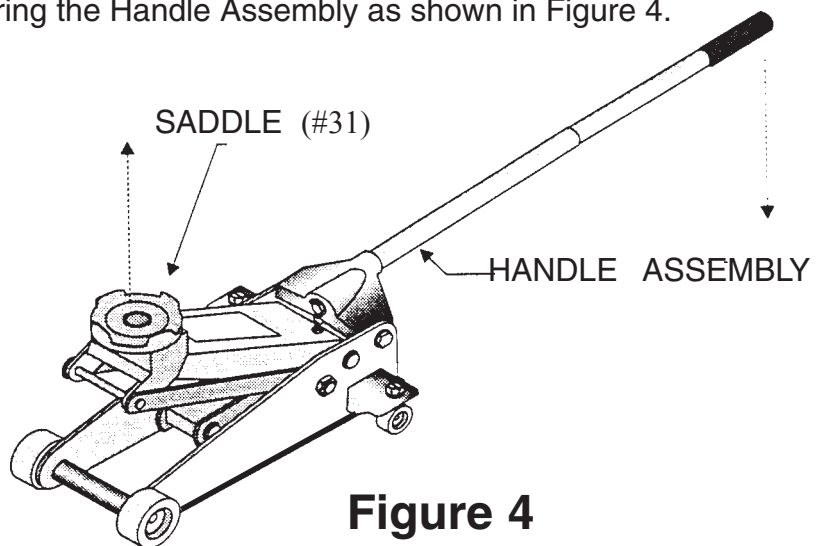

Figure 4
Step 3: Begin jacking by lowering the Handle Assembly as shown in Figure 4.